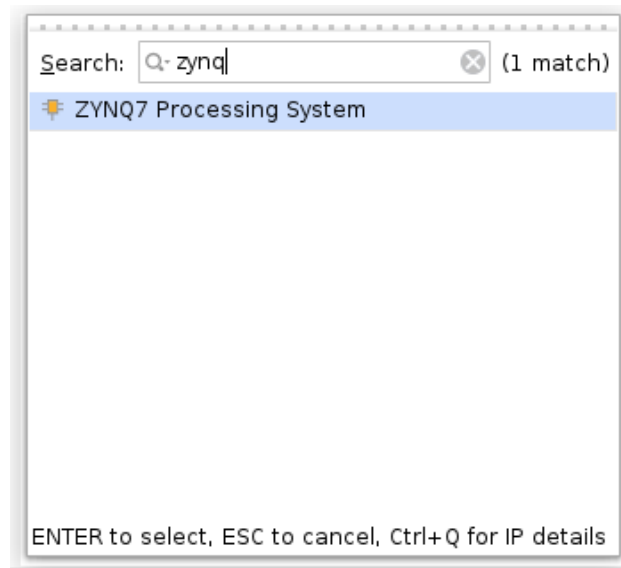

Figure 3: Zynq Processing System
- (b) Click on 'Create Block Design' and name the design 'multiply'. In the diagram, add 'ZYNQ7 Processing System' IP as in Figure 3.
- (d) In the 'Re-customize IP' window, click on 'Peripheral I/O Pins'. To build the hardware depicted in Figure3. Enable 'UART 1' by clicking on the check box. Double check and make sure that only the 'UART 1' is selected.